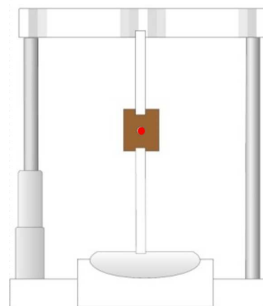

Figure 2: Aiming beams in focus
7. Adjust the slit lamp position so that the aiming beams converge to form one spot on the paper attached to the target. The aiming spot should be centered in the field of view and in the center of the illumination aperture. Lock the slit lamp in this position (See Figure 2)
6. Adjust the slit lamp position so that the aiming beam forms only one clear, well defined spot on the paper attached to the target (focal distance) and lock the slit lamp in this position. The aiming spot should be centered in the field of view and in the center of the illumination aperture. Lock the slit lamp in this position (*See Figure 2 in the above section 2.2.3*)